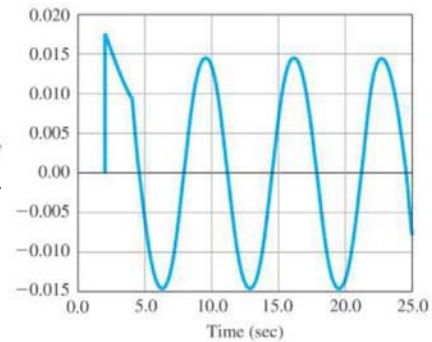

Fig. 1 : Unit impulse response for paper-machine
- The system becomes marginally stable for a proportional gain of $K_u = 3.044$ as shown by the unit impulse response in Fig. 1. Find the optimal PID-controller parameters according to the Ziegler-Nichols tuning rules.
b) Observing from Fig. 1, the ultimate period $P_u \cong 7 \text{ sec}$. From Table. 2., we can calculate the controller gain to be